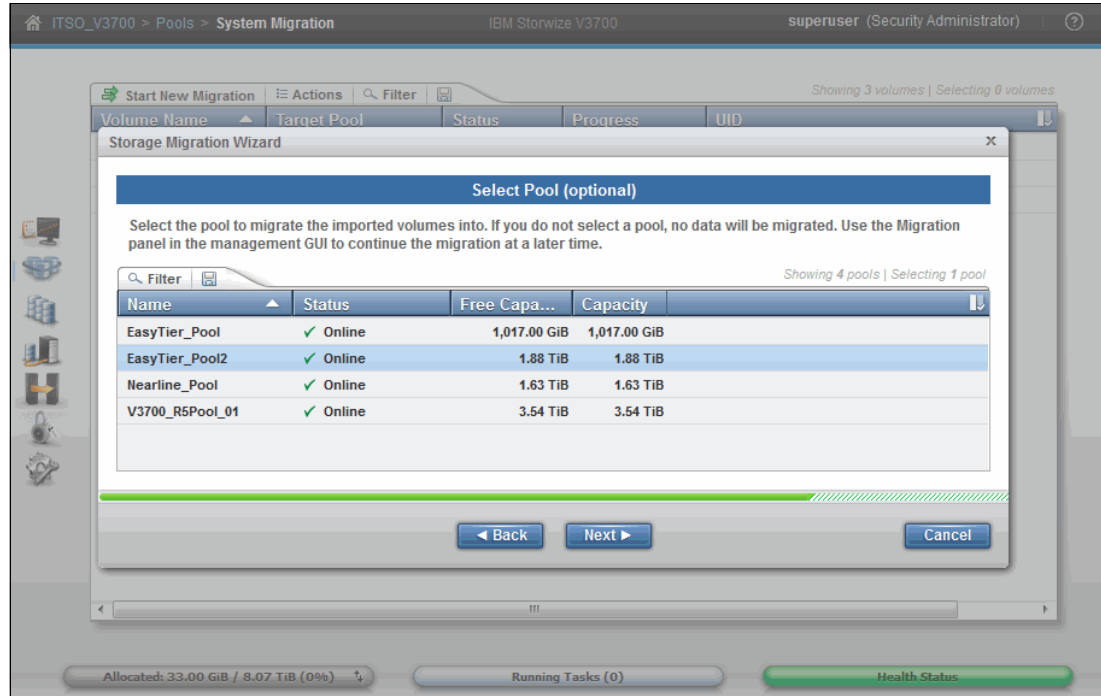

Figure 6-59 Storage Pool selection
1. You must now select a Storage Pool to migrate the imported volumes to, as shown in Figure 6-59. The destination Storage Pool must be an internal Storage Pool on the Storwize V3700.